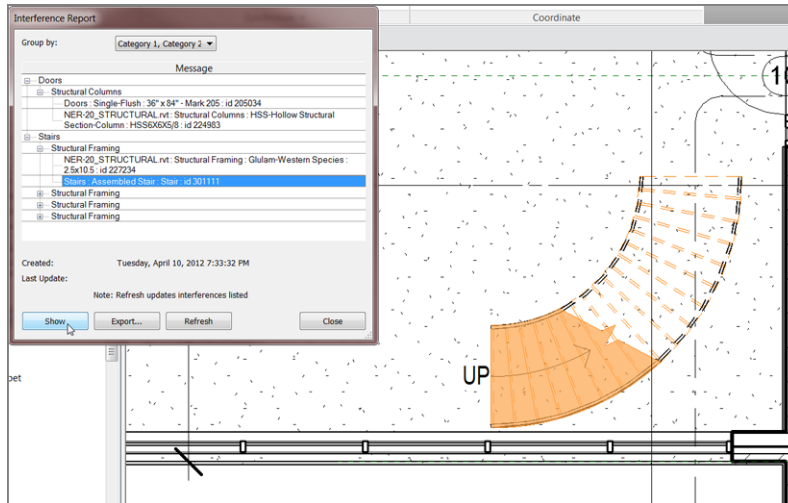

FIGURE 20.17: The offending items are discovered!
8. At the bottom of the dialog, click the Show button (see Figure 20.17). You may have to go through a couple of good views to find the interference (by clicking the Show button). Get used to this.